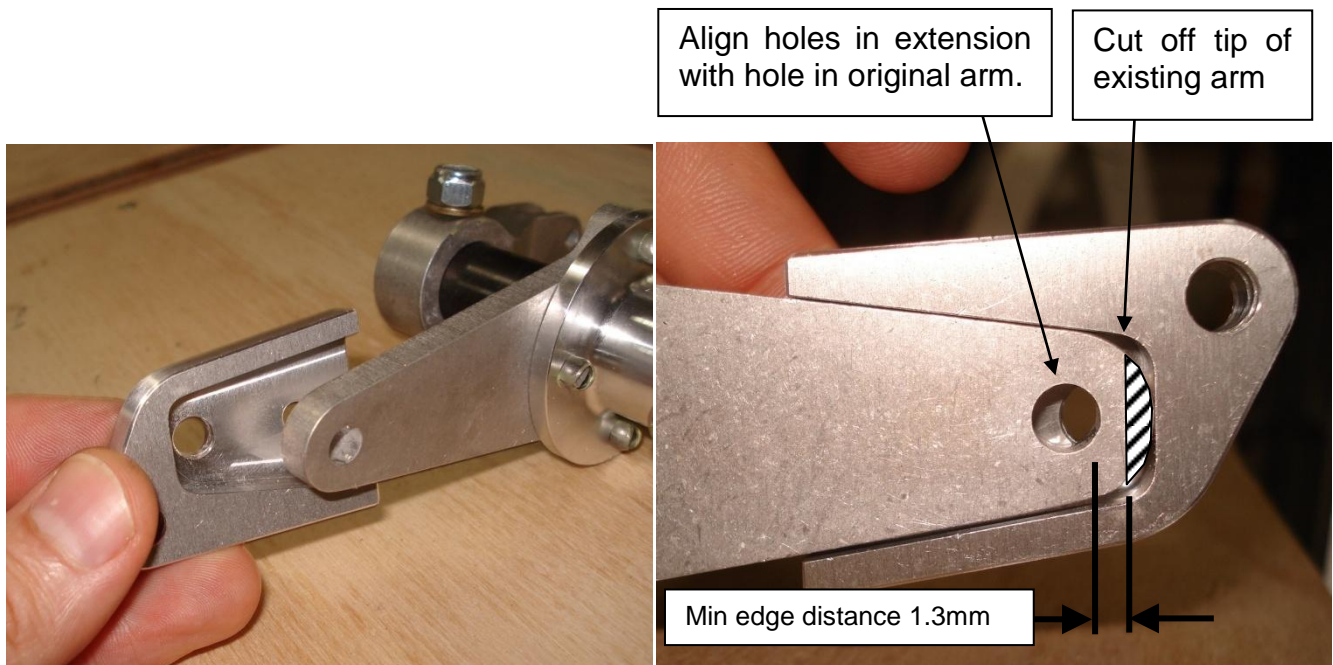

Figure 3 – Fitting Adaptor to Drive Arm
- Apply the new drive adaptor to the existing internal flap drive arm from the outboard side – it will be obvious how much material must be removed from the existing arm to fit the adaptor. Figure 3 (right) shows this. Carefully remove this material, removing just enough so that the extension slides onto the arm far enough to align the bolt holes and to fit snugly around the arm. De-burr the tip. Note the minimum edge distance shown in Figure 3 (right).